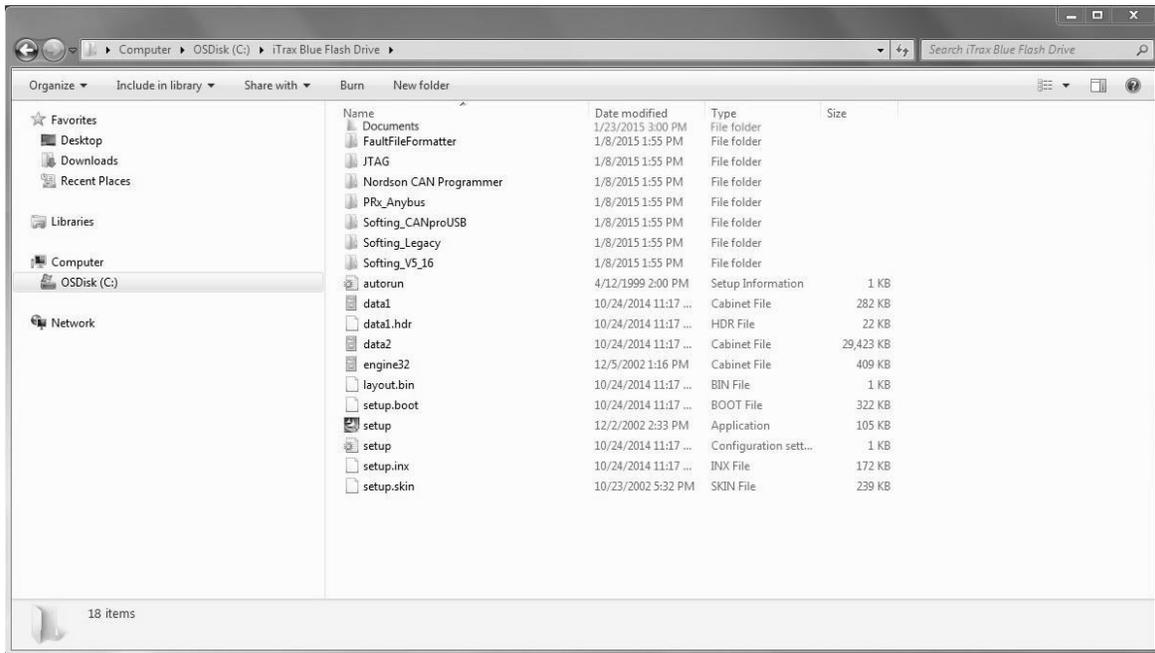

Figure 10 Contents of Blue Flash Drive
5. See Figure 10. Verify that the contents of the newly created folder match those from the flash drive.